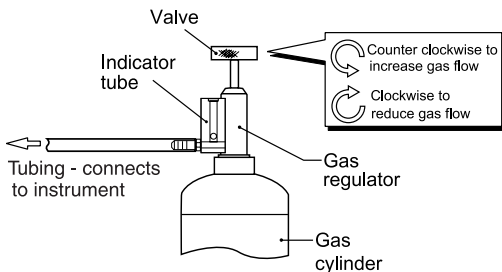

Figure B-5 Connecting Gas
- 3) Remove the cap from calibration gas cylinder. Make sure that the regulator valve is in the fully closed position (Off) then connect the gas regulator to the gas cylinder (push down gently and tighten clockwise, hand tight). See Figure B-5 for details.